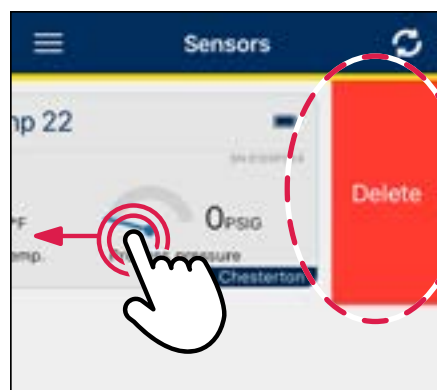

Figure 44
- For **IOS**: **swipe left** on the desired sensor (see figure 44). The Delete option will appear.